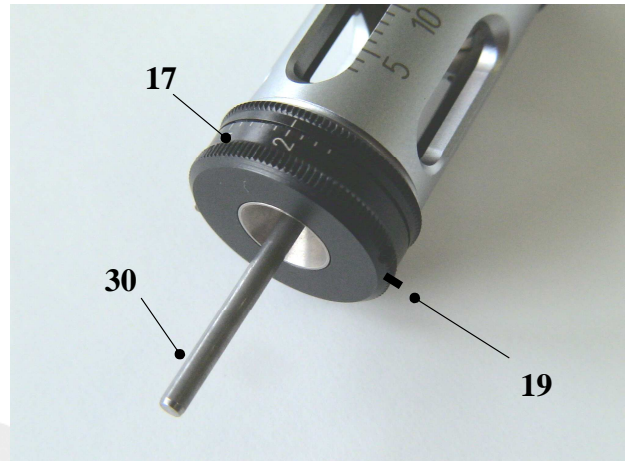

Fig. 10
- By rotating the centering scale **(17)**, fully open the centering jaws **(25)** and insert the calibrating pin **(30)**. Then by rotating the centering scale **(17)** close the centering jaws as far as the calibrating pin **(30)** Fig. 10.